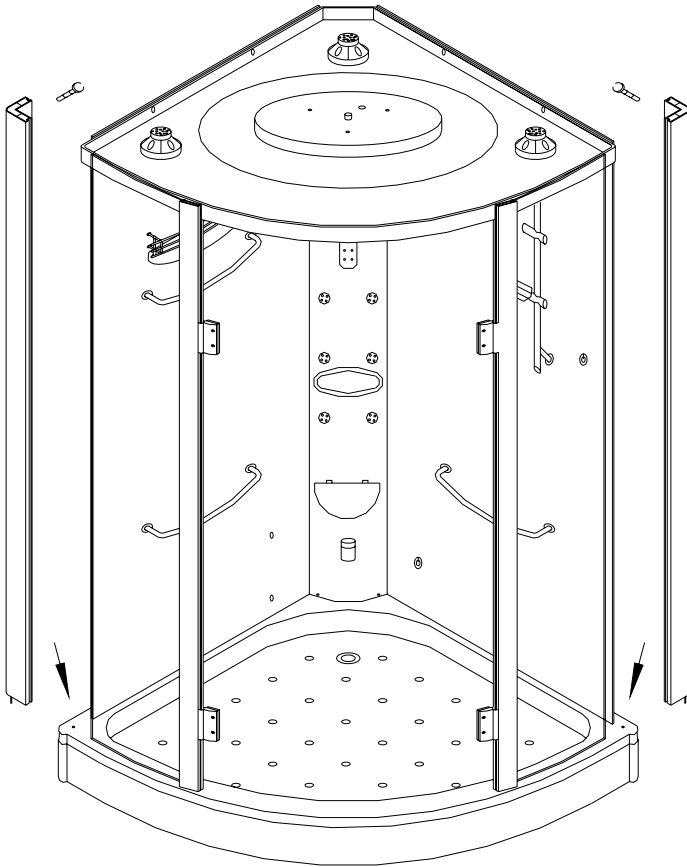

Fig. 7
6. Install the fixed glass---Install plastic strip  to the lower end of the two fixed glass first (no left and right), place them on the basin and insert them to the fore pillars` notch, as fig. 7 shows. Then insert the corner pillars` bolt in the fixed hole in the basin according to the arrow direction in Fig. 7, and make all side glass and fixed glass inserted in the side notch of the corner pillar, use one ST4×20 tapping screw to connect the corner pillar with the top cover.